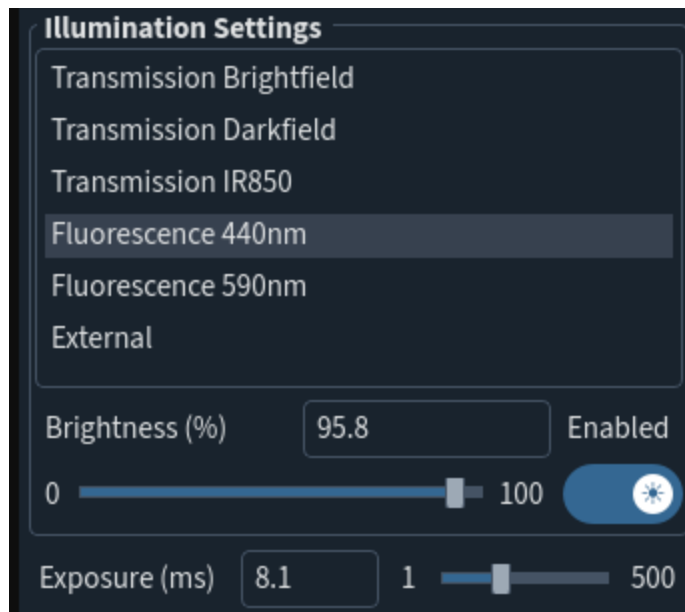

Fig 94: Fluorescent light switch when lights are on.
3. When you are ready to use the fluorescence modules again, re-enable Fluorescence in the GUI by clicking on the switch below the Enabled label again (Fig 94).